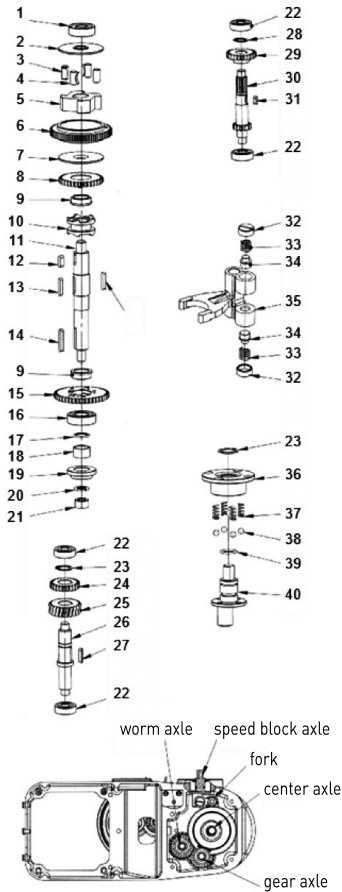

Figure 2: Gear assembly
- Gear assembly (Figure 2);
## Machine part list of Figure 2